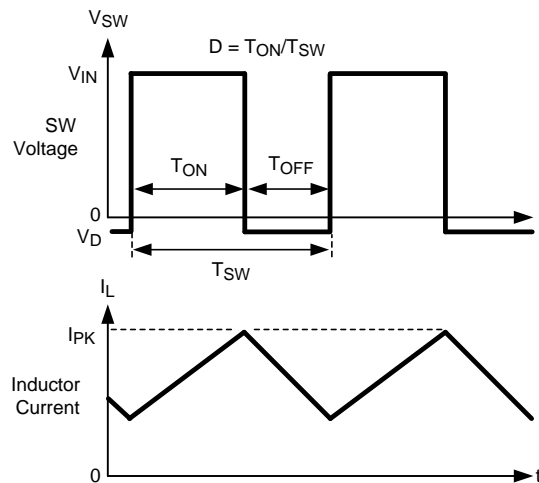

Figure 7. LM2734Z Waveforms of SW Pin Voltage and Inductor Current
The following operating description of the LM2734Z refers to the Functional Block Diagram and to the waveforms in Figure 7. The LM2734Z supplies a regulated output voltage by switching the internal NMOS control switch at constant frequency and variable duty cycle. A switching cycle begins at the falling edge of the reset pulse generated by the internal oscillator. When this pulse goes low, the output control logic turns on the internal NMOS control switch. During this ON-time, the SW pin voltage (V_{SW}) swings up to approximately V_{IN} , and the inductor current (I_L) increases with a linear slope. I_L is measured by the current-sense amplifier, which generates an output proportional to the switch current. The sense signal is summed with the corrective ramp of the
In *Functional Block Diagram*, capacitor C_{BOOST} and diode D2 supply the gate-drive current for the NMOS switch. Capacitor C_{BOOST} is charged through diode D2 by V_{IN} . During a normal switching cycle, when the internal NMOS control switch is off (T_{OFF}) (refer to Figure 7), V_{BOOST} equals V_{IN} minus the forward voltage of D2 (V_{FD2}), during which the current in the inductor (L) forward biases the Schottky diode D1 (V_{FD1}). Therefore the voltage stored across C_{BOOST} is calculated using Equation 1.